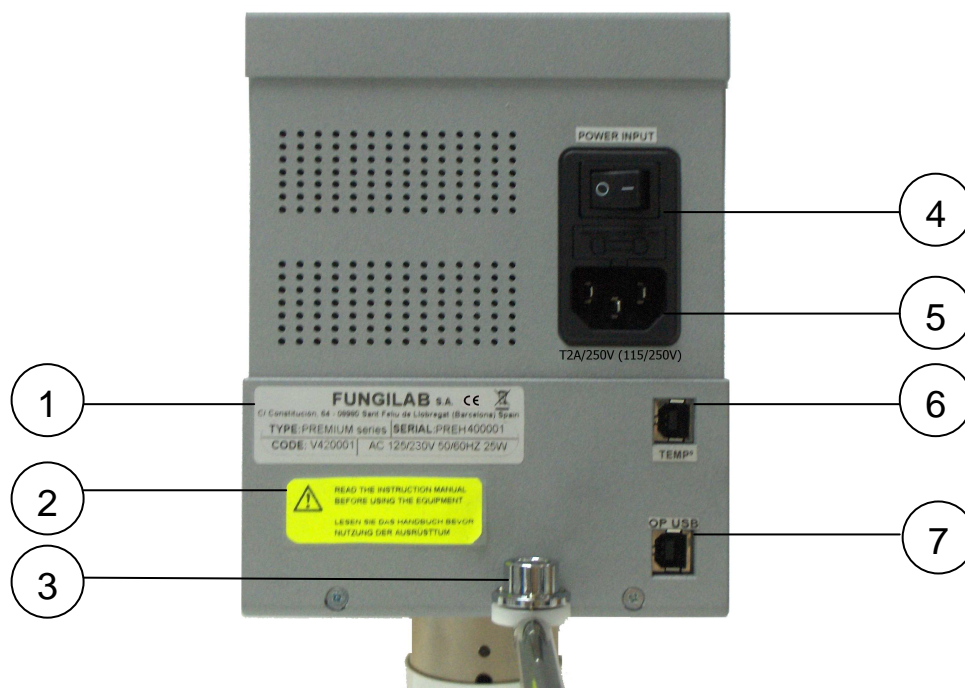

Fig. 3 Back view of the equipment
- Plug the power cable into its correct slot located on the back of the equipment (Fig. 3 position 5) and plug it into the power source.
Turn on the switch on the back of the machine (number 4, Fig. 3). If after doing this, the machine does not turn on:
- Verify that the power cable is connected to the equipment (back part, number 5, Fig. 3) and that the power cable is connected to the power.